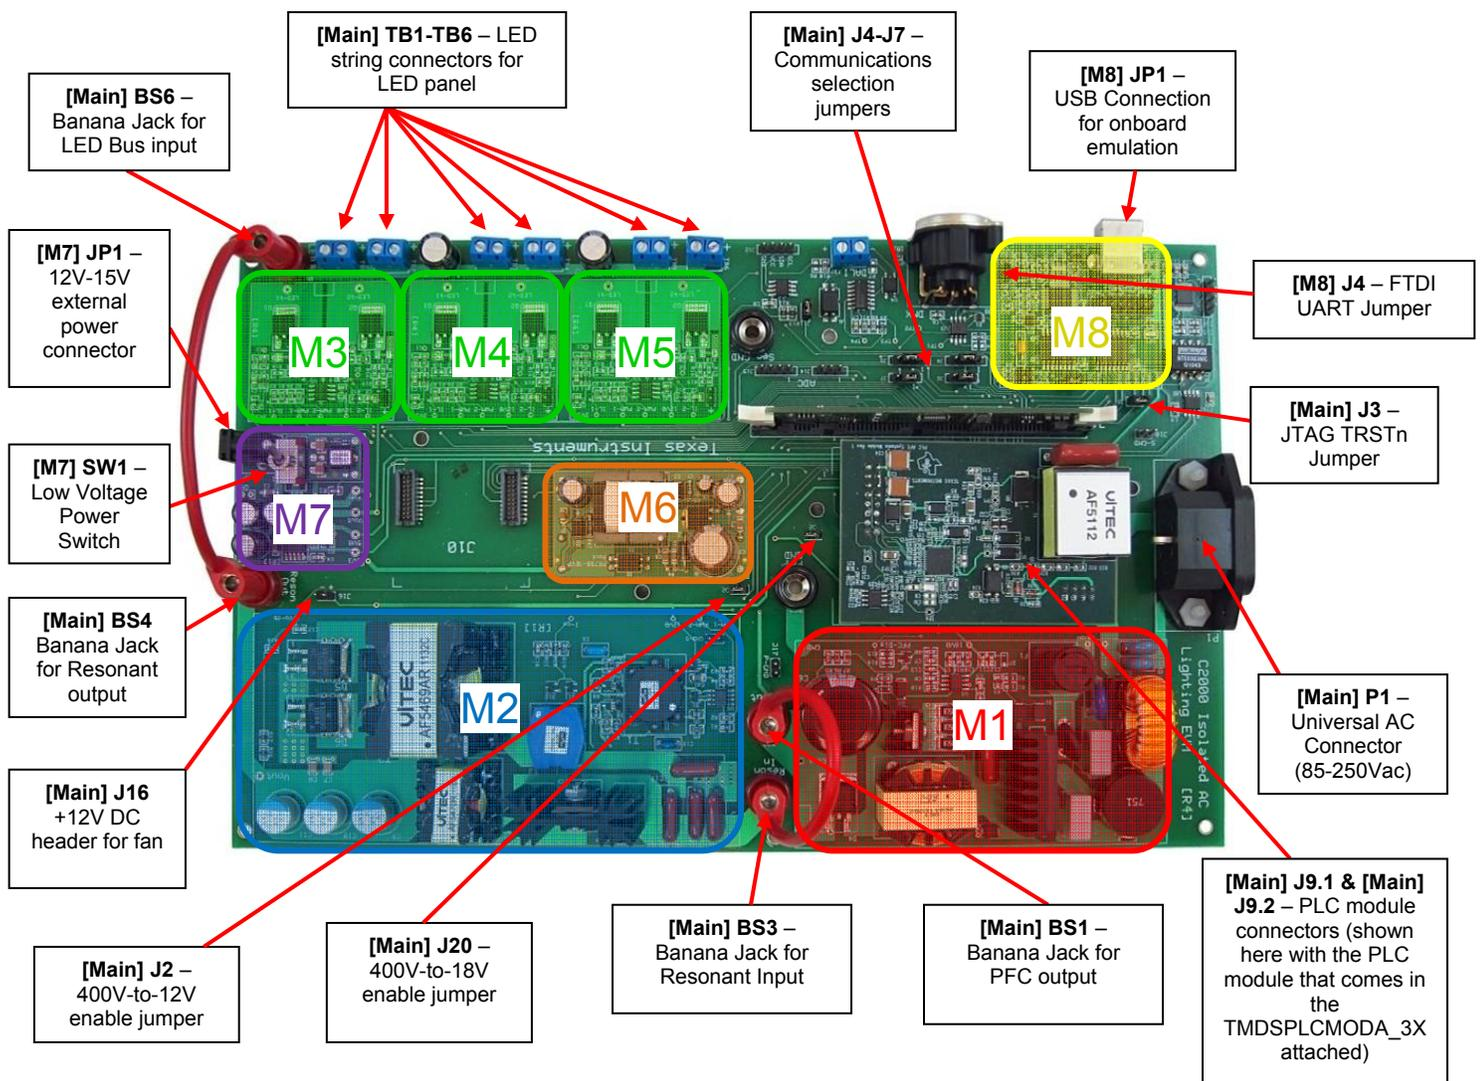

Figure 3: TMDSIACLEDCOMKIT Key Features
Listed below in Figure 3 are some of the major connectors and features that will be used/changed on the Power Line Comms dock board (TMDSPLCKIT-V3 board).
- 2) Move or place the following jumper on the TMDSPCKIT-V3 board (refer to Figure 3):